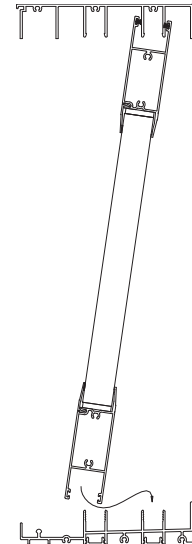

Figure 21
17. Position panel so that the top of panel slips over track frame header. Swing bottom of panel in until bottom of panel is aligned over sill and set panel on roller spline. (See Figure 21)